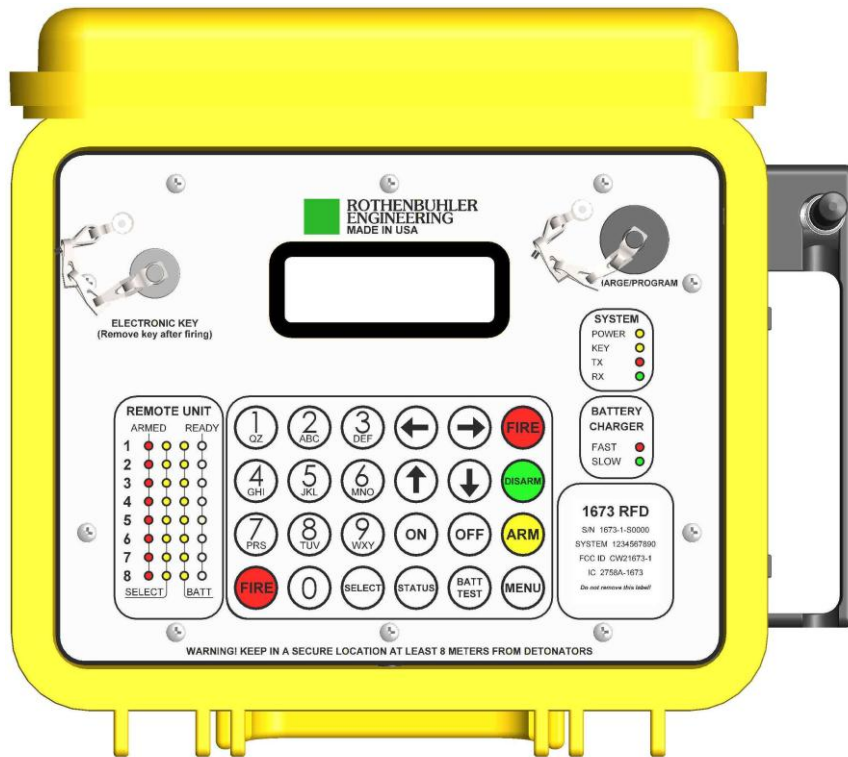

Figure 4-7 Arm the SELECTED Remote Units
4.2.8. Wait for the appropriate warning sirens. About 30 seconds from firing, press and hold the ARM switch for ½ second. The red ARMED lights will blink for up to 15 seconds and come on steady as shown in Figure 4-7.